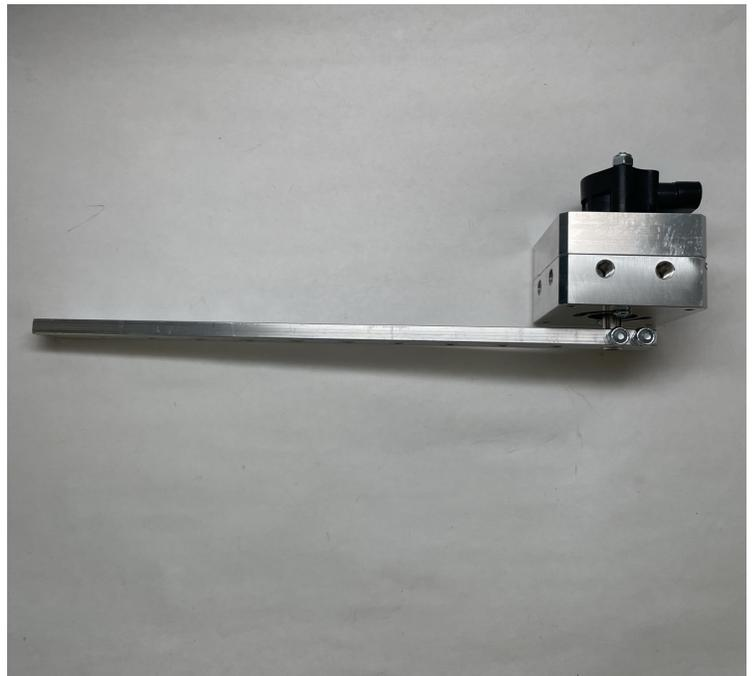

Figure 31
Using hardware (item 4) and (item 10) attach the WAS connector arm (item 1) to the WAS assembly. Mount the arm in the opposite direction to the WAS wire connector (item 13) shown in Figure 31.